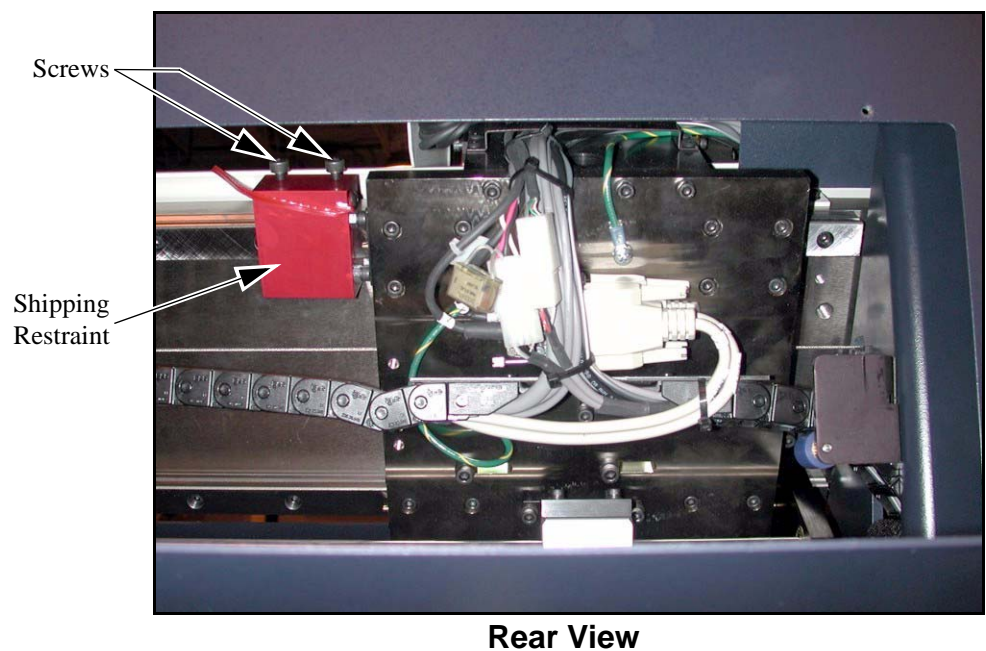

Figure 4-3 X-Axis Shipping Restraint
The X-axis shipping restraint attaches to the X-axis rail, as shown in Figure 4-3 below. To install the X-axis shipping restraint, do the following:
2. Attach the shipping restraint to the X-axis rail as shown in Figure 4-3. Use a 3/16-inch Allen wrench to tighten the socket-head screws that secure the shipping restraint to the X-axis rail.
1. Attach the shipping restraint to one of the Y-axis rails (see Figure 4-3), in front of the worktable.